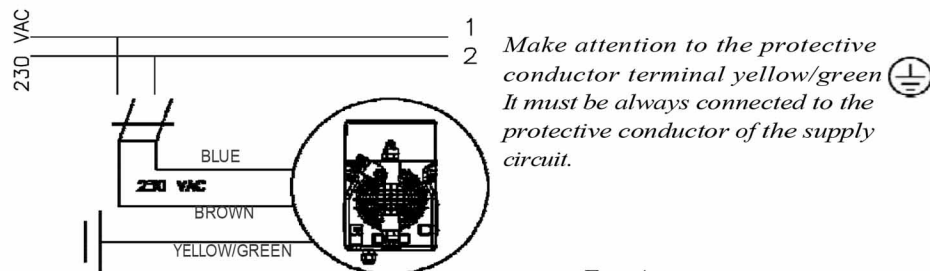

Fig. 4
1. **Disconnect the pins from the mains or by means of a two poles switch with 3 mm minimum distance between the contacts. (Fig. 4).**
1. Disconnect the pins from the mains or by means of a two poles switch with 3 mm minimum distance between the contacts. (Fig. 4).
- b. - Carefully observe the regulations in force in the various countries as regards electrical installations (Fig.4). **When the supply cable is devoid of a plug, the equipment should be connected to the supply mains by means of a single-pole circuit breaker having a minimum distance of 3 mm between the contacts. Before accessing any of the electrical parts, make sure that all the supply circuits are open.**